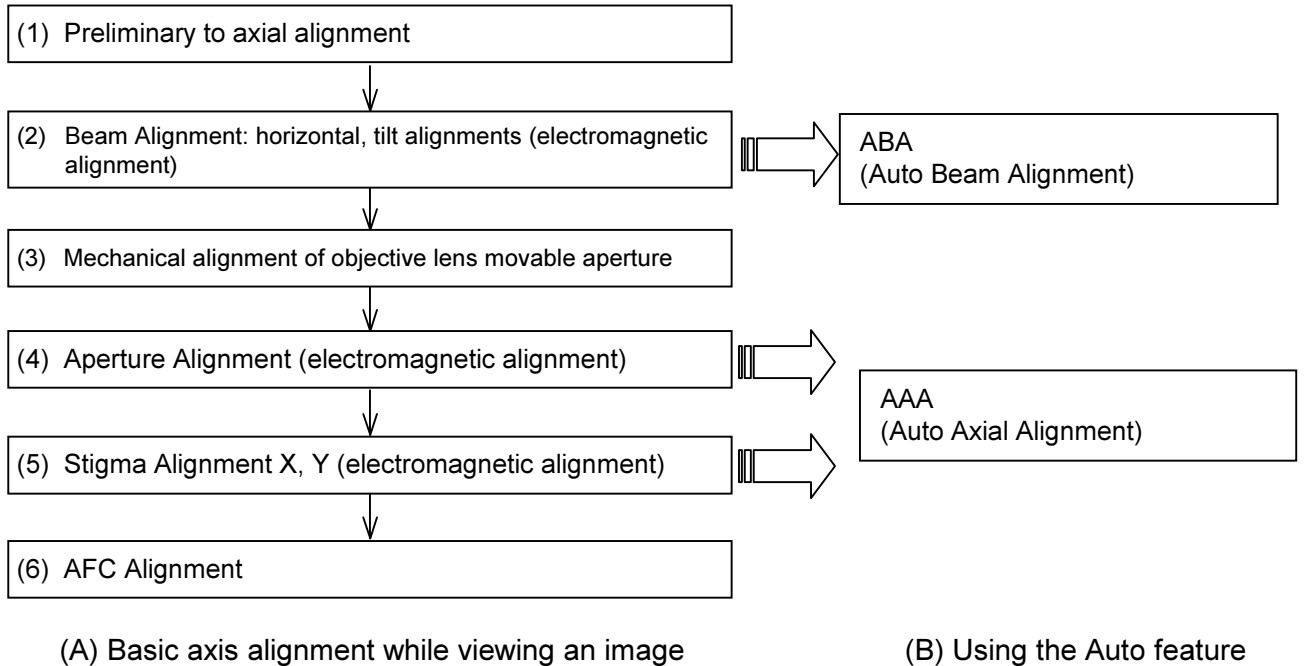

Fig. 3.4-4 Axis Alignment Procedures
Method (A), shown on the left side of Figure 3.4-4, is a basic axis alignment method that allows you to perform alignments by moving a knob on the Control Panel while viewing an image. In the electromagnetic alignment part (**Beam Alignment horizontal, tilt alignment, Aperture Alignment adjustment, Stigma Alignment, and X, Y alignment**) can also be aligned by using Method (B), which combines the Auto features.